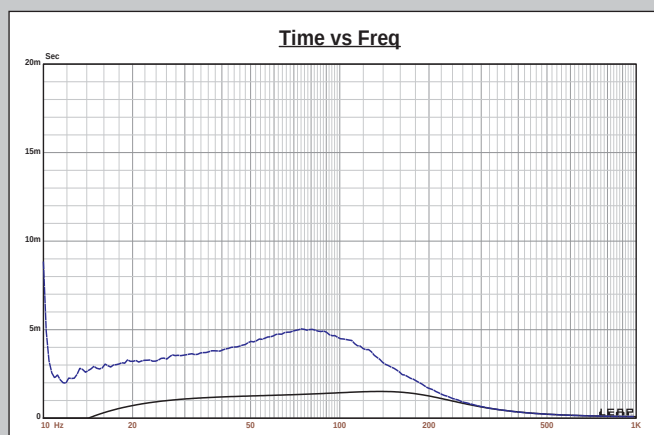
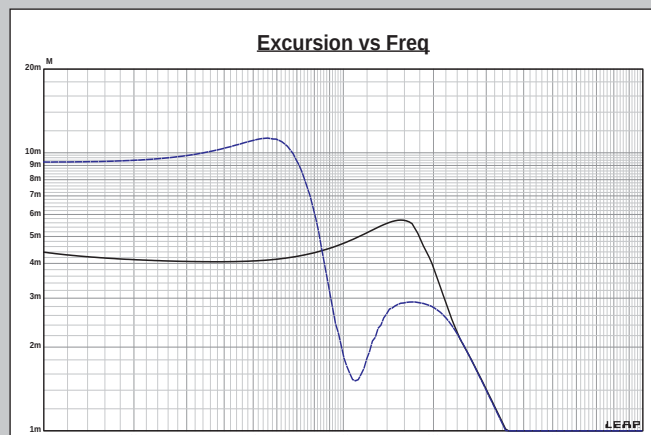

Figure 3: Group delay curves for the 2.83-V curves in Figure 2
Figure 4: Cone excursion curves for the 21-V curves in Figure 2
0.71 for the 30-cubic-inch sealed enclosure and $-3 \text{ dB} = 103 \text{ Hz}$ 42-cubic-inch vented box simulation. Increasing the voltage input to the simulations until the maximum linear cone excursion was reached resulted in 104 dB at 21 V for the sealed enclosure simulation and 104.5 dB with a 21-V input level for the larger vented enclosure (see **Figure 3** and **Figure 4** for the 2.83-V group delay